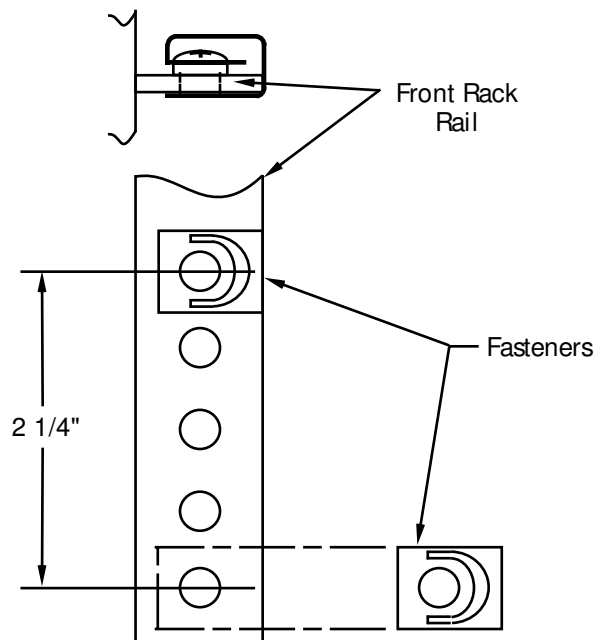

Figure 1
3. Referring to Figure 1, install the four fasteners so the captive nuts are located behind the appropriate holes on the front rack rails.